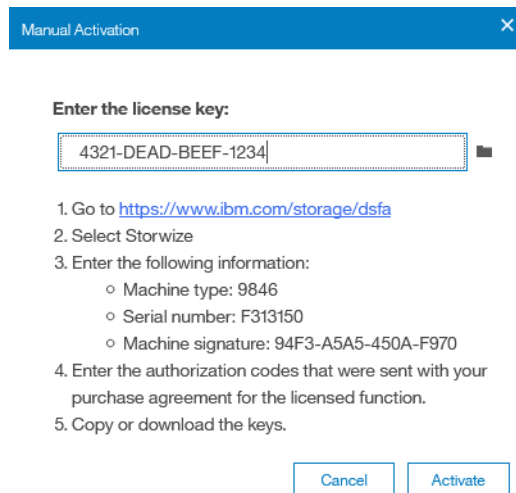

Figure 7-22 Entering an encryption license key
3. You can enter the license key either by typing it, by using cut or copy and paste, or by clicking the folder icon and uploading to the storage system the license key file downloaded from DSFA. In Figure 7-22, the sample key is already entered. Click **Activate**.